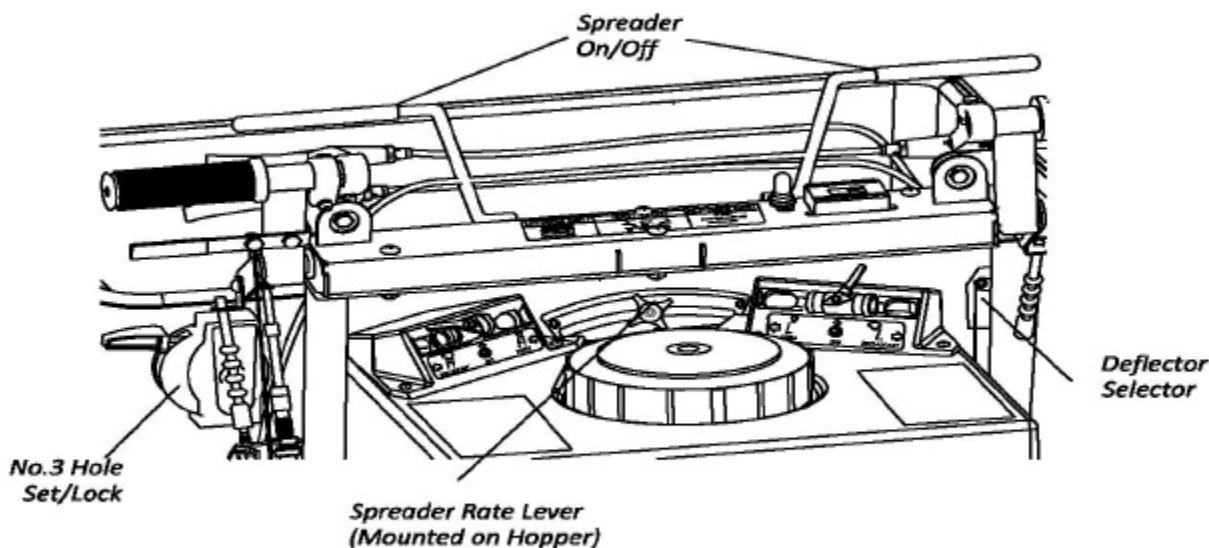
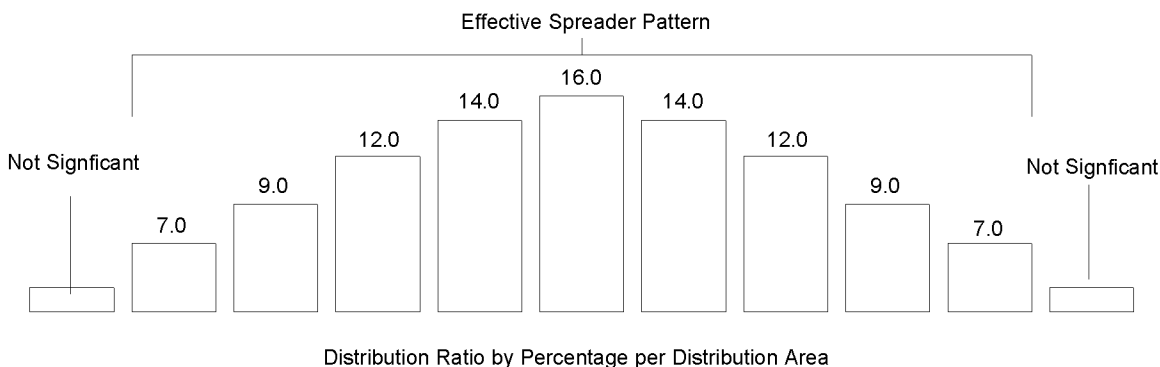

Figure 6. Spreader Rate Lever and Open/Close Lever
Figure 8. Spreader Material Distribution Ratio
This machine uses a familiar 3-hole cyclone type spreader mechanism that broadcast spreads a pattern width of 14 ± 1 feet (4.3 ± 0.3 meters), as shown in **Figure 8**.? Using a 7 ± 1 foot (2.1 ± 0.3 meters) overlap travel pattern provides an even distribution of most products. A remote controlled deflector is provided to cut off the right side of the spread pattern for trimming. A remote controlled first-hole adjustment plate is provided that should be used with the deflector to compensate for the amount of product required while trimming and to balance the spreader pattern for even distribution. An opening and closing handle remotely controls the delivery of granular material from the hopper. A rate control lever adjusts the amount of product delivered when the hopper is open. Refer to Figure 6 for location of these controls. The sprayer can be operated at the same time the spreader is in use, and the seven-foot overlap pattern is also effective for the sprayer.
6. Place 11 calibration pans in a line on two-foot centers on a paved area such as a parking lot (refer to Figure 8). NOTE: Checking and adjusting the distribution pattern requires multiple passes over the calibration pans. This process is done on a paved area to avoid burning the vegetation by over-fertilizing, and to allow the product to be collected and reused.
- e. The distribution ratio should be approximately equal to that shown graphically in Figure 8, and by percentage in Table 1, with the shaded area of the table the most important. The unshaded area of the pattern receives negligible product distribution. NOTE: The distribution pattern shown in Figure 8 and Table 1 represents the ideal pattern, which may not be reproducible in the field.